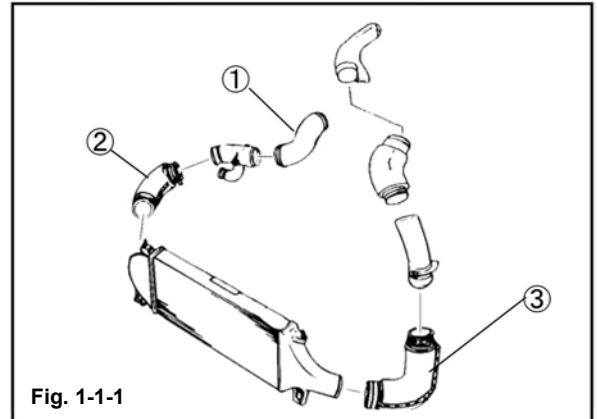
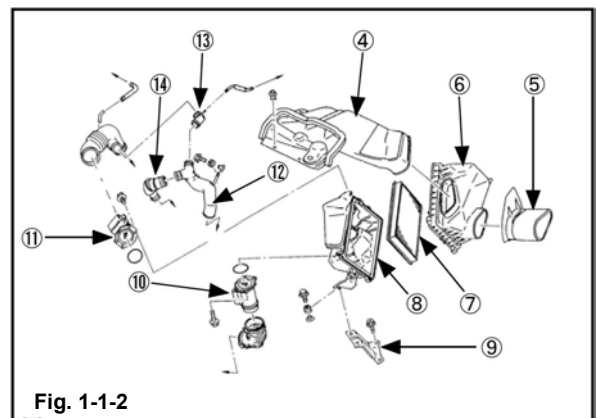

Fig. 1-1-1
Fig. 1-1-2
(2) Remove the undercover.
(3) Remove the inner fender.
(4) Remove ①~③ (Fig.1-1-1)
(5) Remove the strut brace.
(6) Remove ④~⑭ (Fig.1-1-2, Fig.1-1-3)
④ : Airduct (Outside air inlet side)
⑤ : Airduct
⑥ : Air cleaner case (upper)
⑦ : Air cleaner element
⑧ : Air cleaner case (lower)
⑨ : Bracket
⑩ : Air flow meter
⑪ : Air flow meter
⑫ : Air tube
⑬ : Air tube